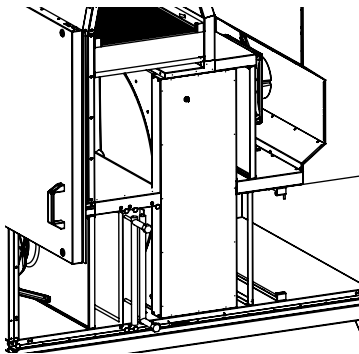

Fig. 15
- Open the left door and remove the cover of the terminal box. (see Fig. 15)
- Only for RHE 1050 V, ROTOR V 6025: First remove the covers of the cable duct, then loosen the connection of the lower control board and then also remove the control board. (see Fig. 15)